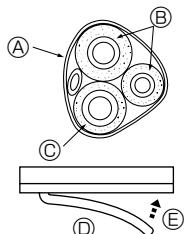

**Fig. 5-3**
- When routing the drain piping, make sure that the drain hose is routed as shown. (Fig. 5-3)